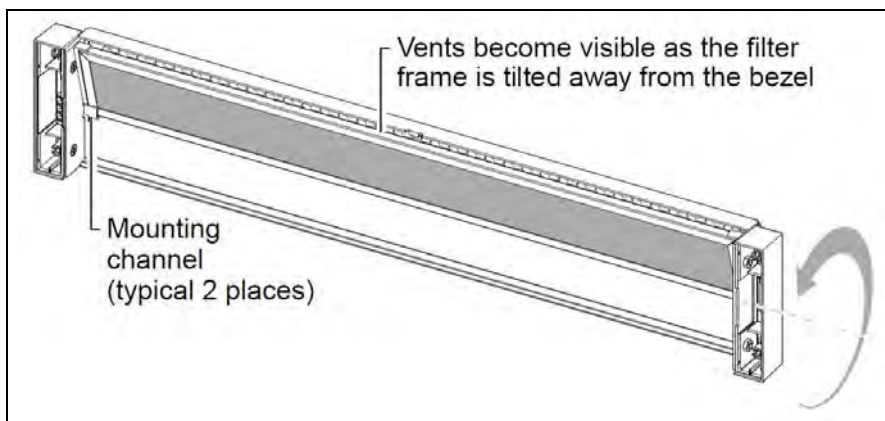

Figure C.42 - Air Filter Removal
5. Tug the top of the filter frame gently to revolve it away from its vertical position and then pull upward to release the filter from the bezel's two mounting channels (**Figure C.42**).
Only one of the mounting channels is shown in Figure C.42. The other channel is hidden by the ear cover on the right.